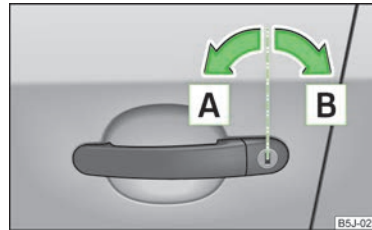

Fig. 10
- Turn the key in the locking cylinder of the driver's door in the direction of travel (unlocking position) **A** » Fig. 10.
- Turn the key in the locking cylinder of the driver's door in the opposite direction of travel (lock position) **B** » Fig. 10 on page 26.